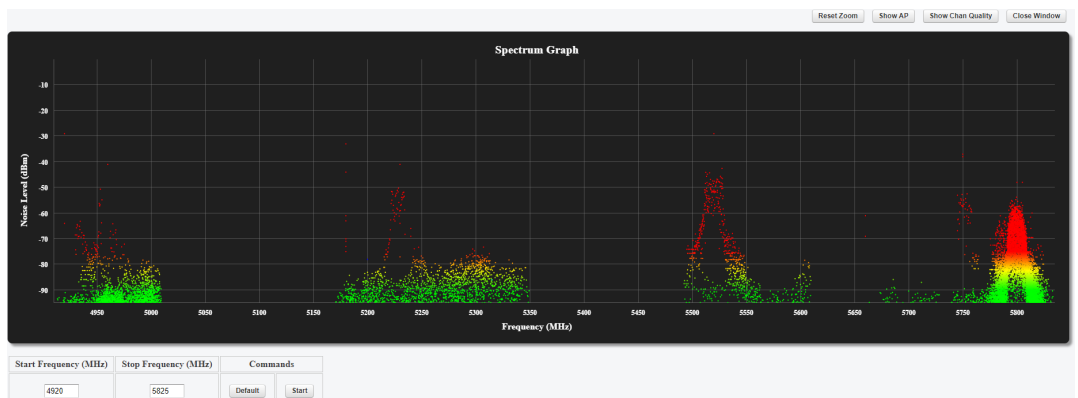

Figure 29. Spectrum Graph window (typical display)
- The **Spectrum Graph** window will open in a new web browser tab (Figure 29 (page 71)).